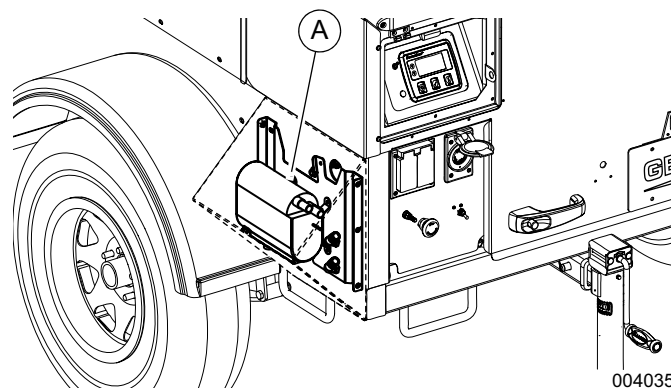

Figure 2-7. Diesel Fired Block Heater
See Figure 2-7. A diesel fired block heater (A) is located at the rear of the unit beneath a protective cover. Coolant is drawn through the heater by an internal electric pump, and warmed by a diesel-fueled burner. Heated coolant is then circulated through the engine block and returned to the heater where the cycle is repeated.